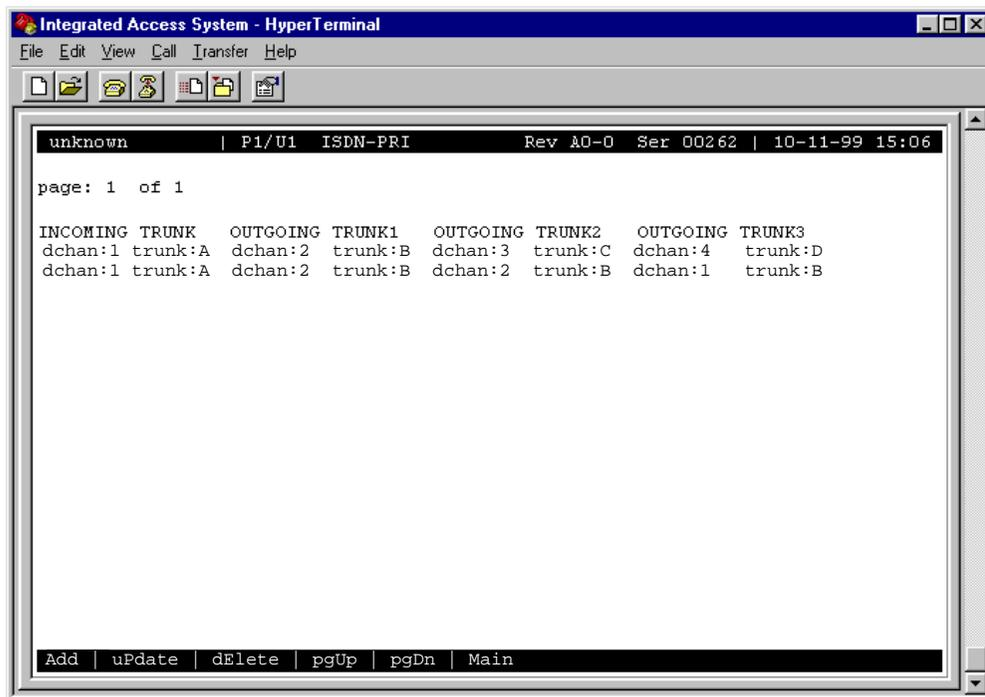

Figure 6-18. Add Trunk Route Screen
**All eight fields must be changed for each new trunk route.** For instance, if you want a single incoming trunk group to be routed to three outgoing trunk groups on three different D channels, the process is easy. In Figure 6-18 the first trunk route shows this configuration. D channel #1, trunk group “A” is to be routed to D channel #2, trunk group “B.” If that route is busy, it will be routed to D channel #3, trunk group “C.” If that route is busy, it will be routed to D channel #4, trunk group “D.” If that route is busy, the unit will drop the call.
Another example of this procedure is shown in Figure 6-18. If you want a single incoming trunk group to be routed to only one outgoing trunk group, D channel #1, trunk group “A” is routed to D channel #2, trunk group “B.” **The alternate routes 2-3 must contain the same information in alternate route #2.** Since this is the only alternative route, if that route is busy, the unit will drop the call.